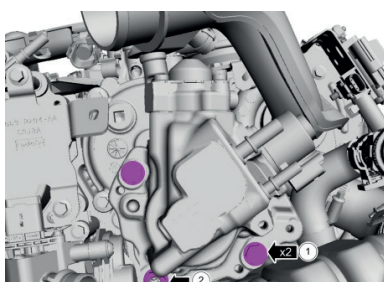

fig 2
- » remove the 3 retaining bolts from the pump (fig 2) and carefully lift out
- » install the pump into the pump gearbox using the 3 retaining bolts (fig 2), torqued to 20Nm